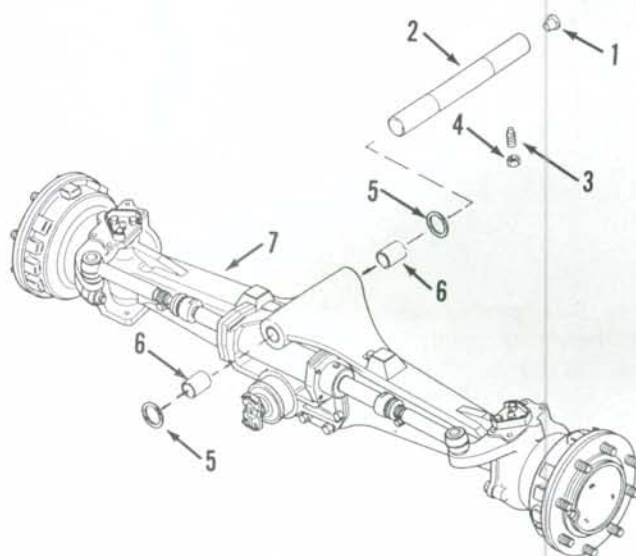

Fig. 4—View of front drive axle assembly removed from tractor.
5. REMOVE AND REINSTALL. To remove the front drive axle assembly (7—Fig. 4), apply park brake and block rear wheels securely. If so equipped, remove front weights and weight bracket. Loosen front wheel lug nuts. Unbolt and remove front drive shaft and shield as outlined in paragraph 9. Disconnect steering hoses at cylinder. Cap or plug all openings immediately to prevent entrance of dirt into system. Place a floor jack under front axle and raise front of tractor. Support front of tractor with jack stands under side rails. Remove front wheel and tire assemblies. Remove locknut (4) and Allen set screw (3). Remove protective plug (1), then using a slide hammer and adapter (CAS-2014), pull pivot pin (2) from axle and front support. Remove shims (5) as pin is removed. Lower axle assembly and remove from under tractor.